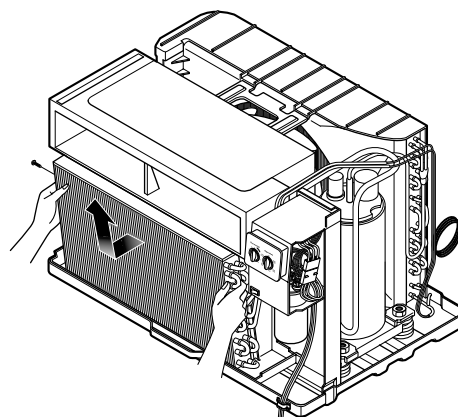

Figure 17
6. Re-install the components by referring to notes. (See Fig. 17)